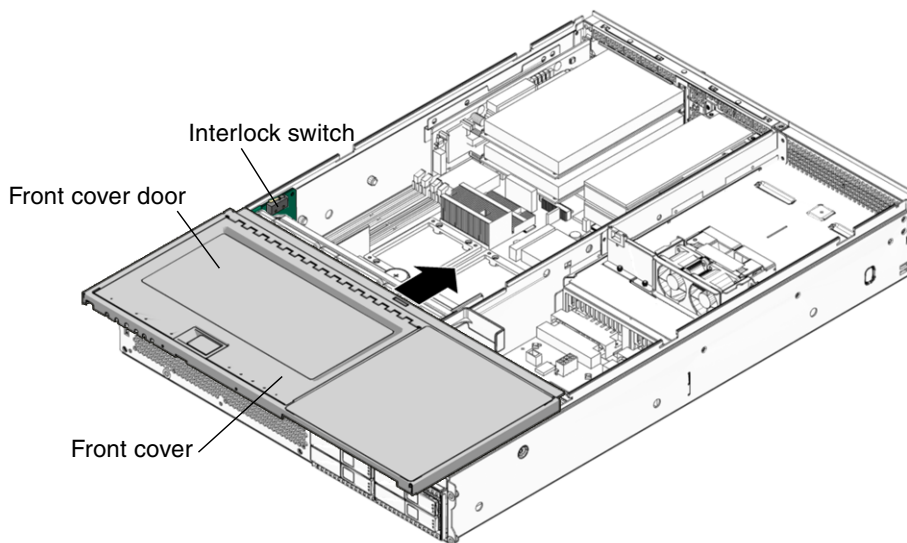

FIGURE 3-41 Installing the Front Cover – Sun Fire V245 Server
2. **Install the front cover.** (FIGURE 3-41).